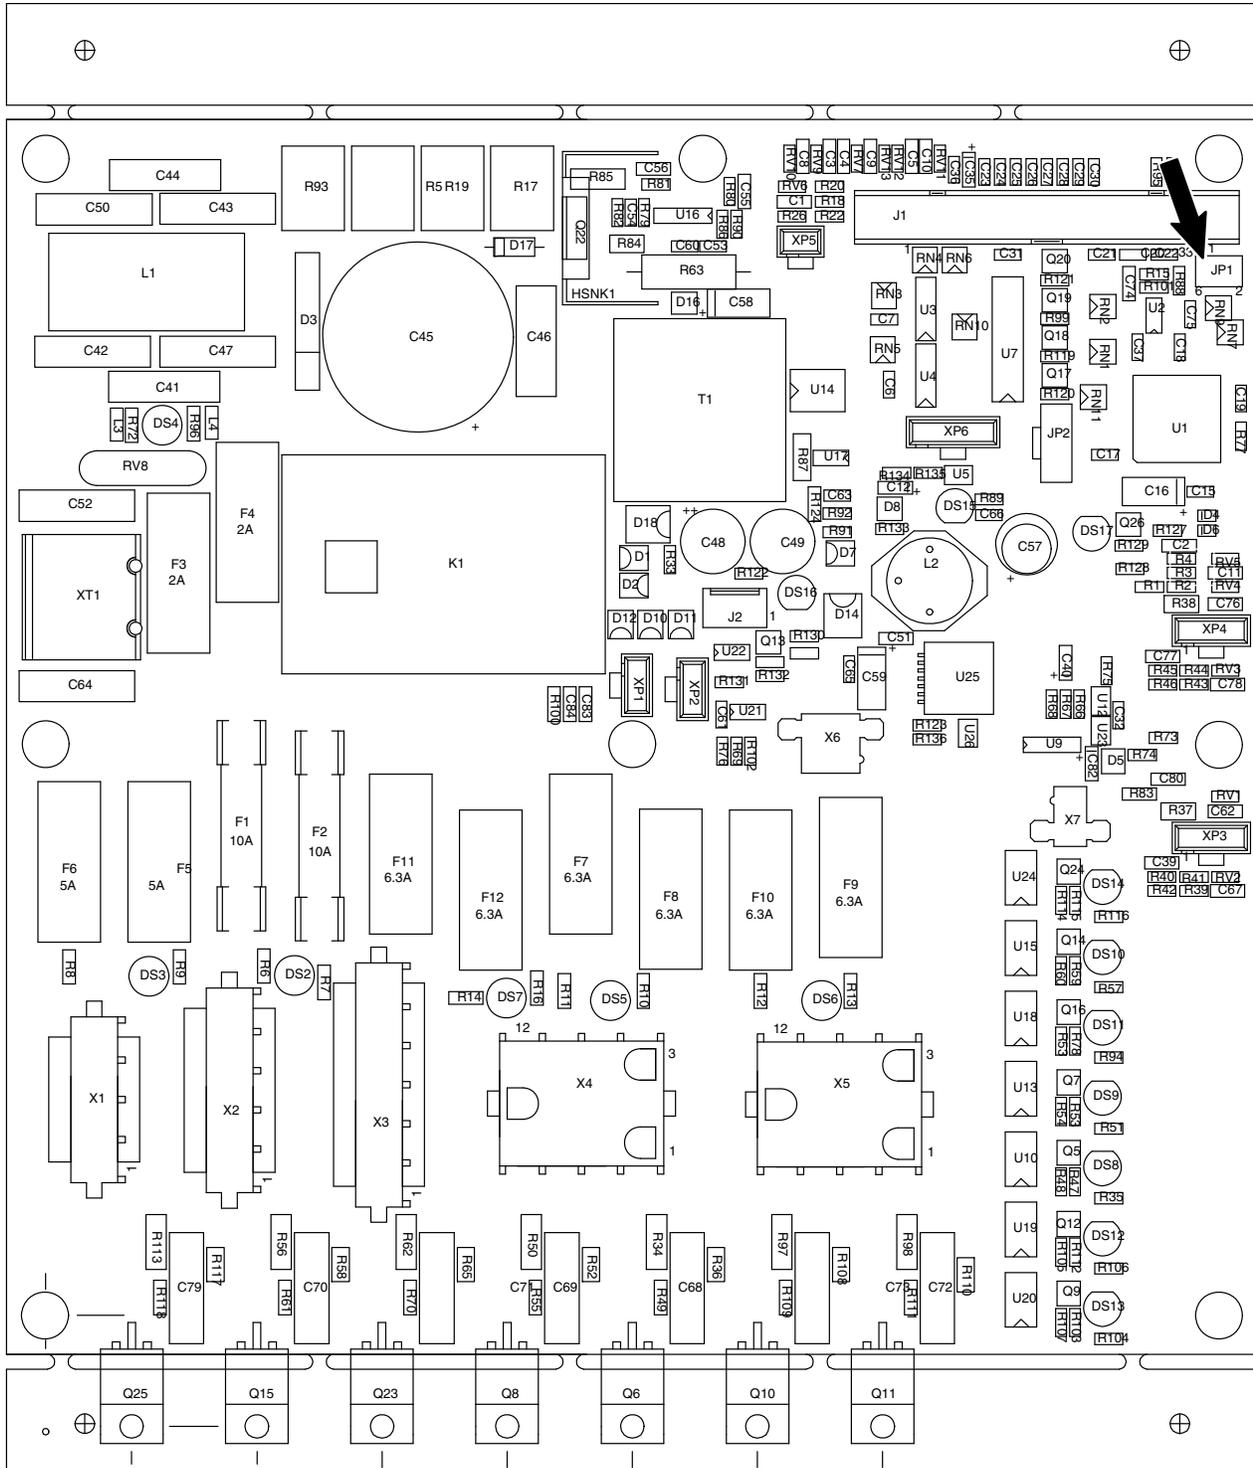
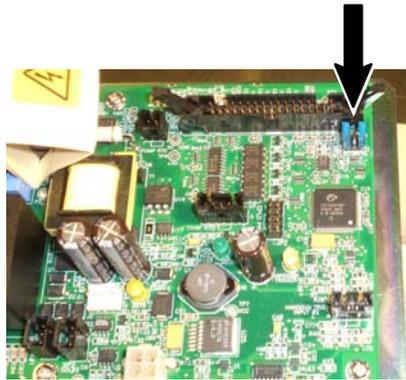

Figure 5-12 Location of the JP1 terminal on the main PCA board
Figure 5-13 100-ohm platinum melter—jumpers installed
**NOTE:** Before installing the new board, you must ensure that the board is properly configured for the type of temperature sensors present on the melter. If the melter uses 100-ohm platinum sensors, the jumpers connected to the JP1 terminal on the old board must be removed and then installed on the new board. Figure 5-12 shows the location of terminal JP1 on the main PCA board. Figures 5-13 and 5-14 show the jumpers installed and not installed, as appropriate for each type of melter.
- c. Install the second jumper between terminals 5 and 6. Figure 5-13 shows the jumpers installed.